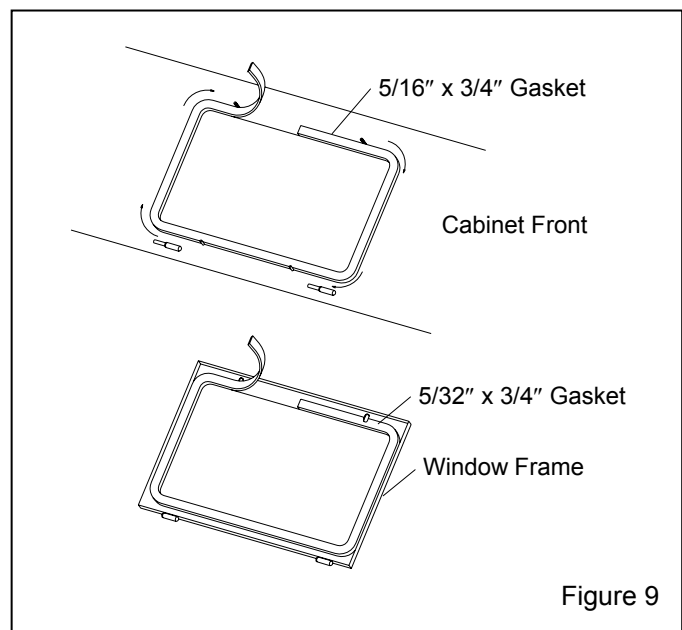

Figure 9
### 7.4 Window Gasket Replacement, Figure 9
**7.4.4** Peel a short section of adhesive backing from the 5/16" thick strip gasket, and adhere the gasket to the center of the top edge of the window opening as shown in Figure 9. Peel additional backing as needed, and work the strip around the radius of each corner, pressing it tightly to bond. Trim the gasket to fit and compress the ends to seal.